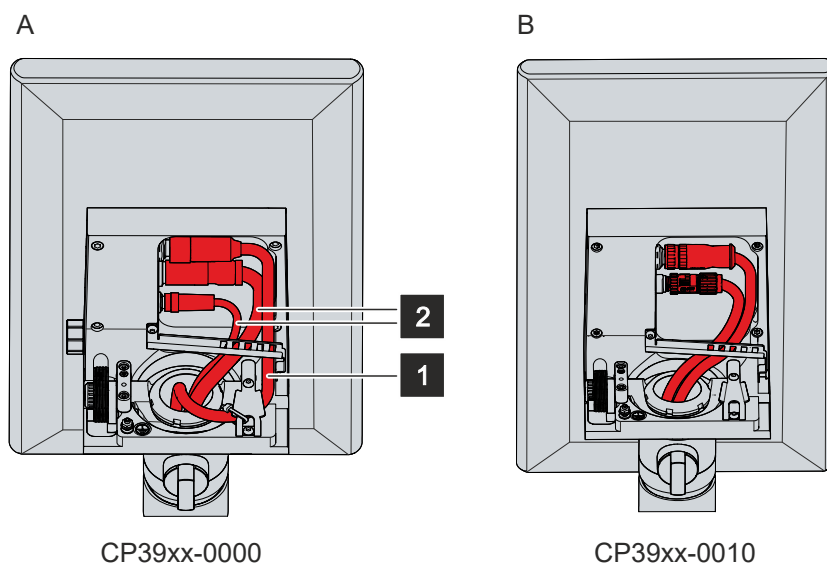

Fig. 28: Routing the cables in the mounting arm adapter
Depending on the device equipment, the connections are either located at the connection block on the rear side of the control panel or inside the mounting arm adapter. If you have ordered the control panel with one of the following Beckhoff mounting arm adapters installed ex factory, it is essential that you observe the cable routing shown (see Fig. 28) in order to avoid cable damage:
3. Route the signal and power supply cable inside the mounting arm adapter as shown in Figure 28.
4. Route the data cables inside the mounting arm adapter as shown in figure 28.